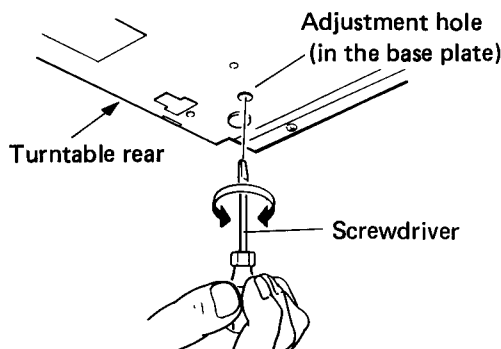

Fig. 9.1 Stylus Lowering Position Adjustment
3. Depending on the direction and degree of displacement, adjust the adjustment screw indicated in Fig. 9.1 with a small screwdriver.